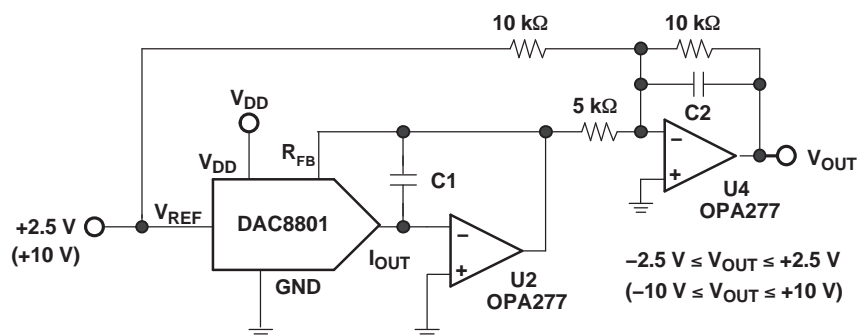

Figure 22. Bipolar Output Circuit
Some applications require full 4-quadrant multiplying capabilities or bipolar output swing. As shown in Figure 22, external op amp U4 is added as a summing amp and has a gain of 2X that widens the output span to 5 V. A 4-quadrant multiplying circuit is implemented by using a 2.5-V offset of the reference voltage to bias U4. According to the circuit transfer equation given in Equation 2, input data (D) from code 0 to full scale produces output voltages of $V_{OUT} = -2.5\text{ V}$ to $V_{OUT} = 2.5\text{ V}$.